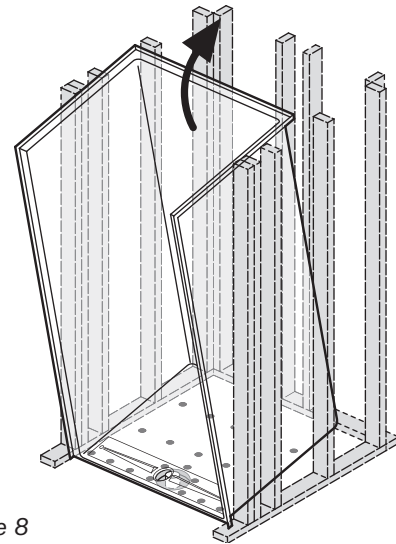

Figure 8
- 14 Tip shower up into position; **do not drag or slide it**. Make sure front aligns with line drawn in Step 3. Avoid stepping in shower until adhesive has cured. Check sides and front with a level. (Figure 8)